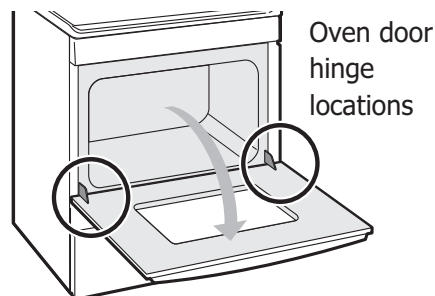

Figure 16: Door hinge location
1. Open oven door completely, horizontal with floor (see Figure 16).
3. Fully open the oven door, horizontal with floor (see Figure 16).